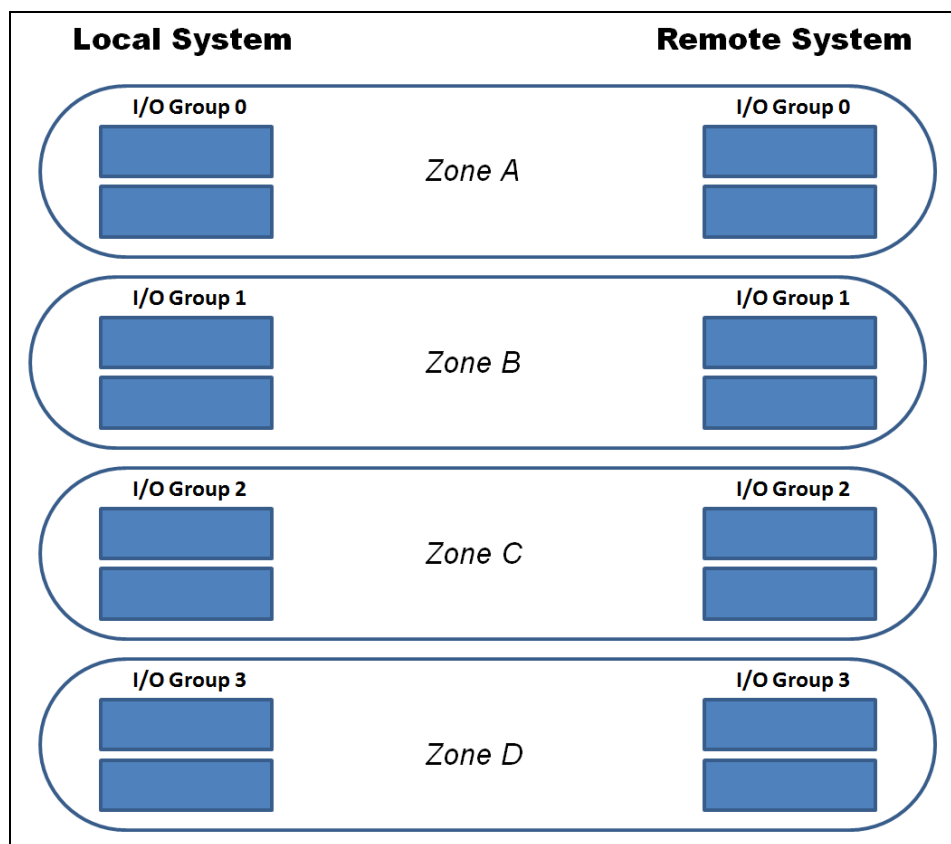

Figure 6-22 Zoning scheme for >80 ms Remote Copy partnerships
- ▶ For Remote Copy configurations where the round-trip latency between systems is more than 80 milliseconds, apply SAN zoning to provide separate intrasystem zones for each local-remote I/O group pair that is used for replication, as shown in Figure 6-22.